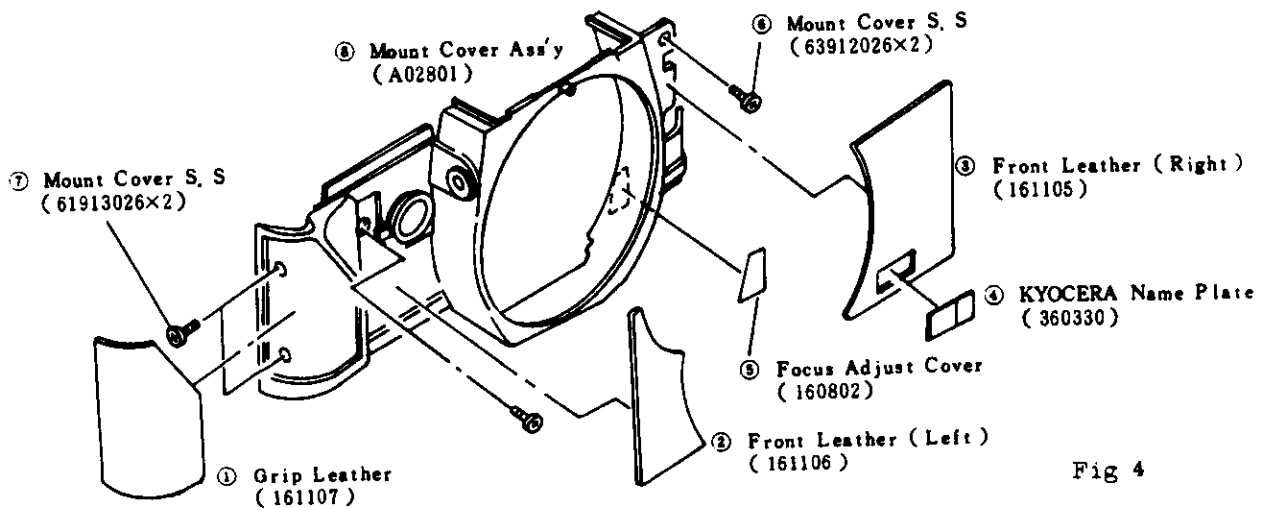

Fig 4
(3) Mount Cover Ass'y;
- a) Remove the respective parts ①~⑦ shown in (Fig 4) in numerical order.